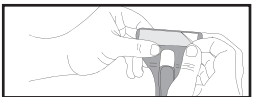

Figure 5.1; Remove Backing from Adhesive Strip to Attach it to Header
Now that you have determined the final position of the HORIZONTAL BLIND MOUNT (B), verify the header is clean and dry and that the tube of the blind mount is snapped into place on the E-Wand, then remove the backing on the adhesive strip [Fig. 5.1] and firmly press to attach it to the blind's header.